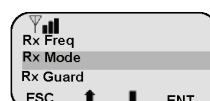

Figure 8
8. Highlight "Rx Guard" and press "ENT". (See Figure 8)